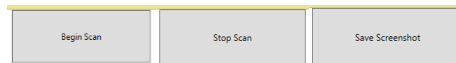

Fig. 10- ‘Begin Scan’ ‘Stop Scan’ and ‘Save’ Buttons
⑥ **Begin Scan, Stop Scan and Save:** To commence a live scan, select the ‘Begin Scan’ button. Upon selection an A-Scan trace will appear on the main window. To stop scan, click on the correspondent icon as well as for save a screenshot (Fig. 10)